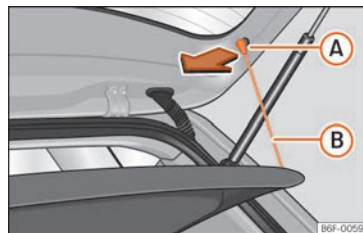

Fig. 108 In the luggage compartment: removing and fitting the shelf.
- Detach the cord loops » **Fig. 108 B** from their hooks **A**.
- Hook the loops » **Fig. 108 B** to the rear lid.